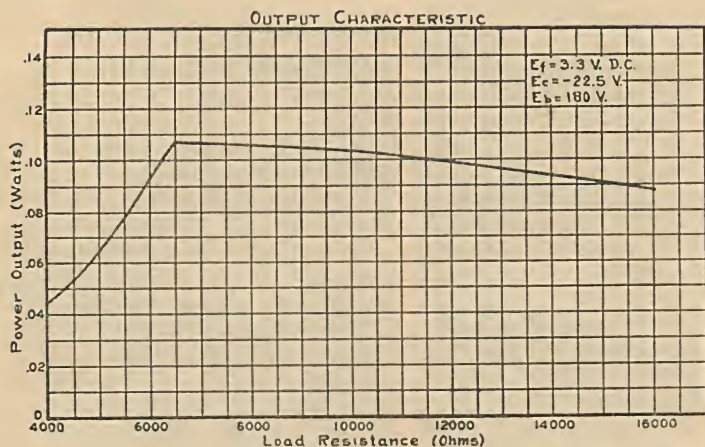

Fig. 10
**Output Characteristic**—Fig. 10 shows the undistorted power output obtainable at various load resistances.
The CX-112A may be used as an R.F. or A.F. amplifier and should always be operated with the proper value of grid bias to secure maximum undistorted amplification. When used in the last audio stage, the power output can be calculated from the curve shown in Fig. 10.